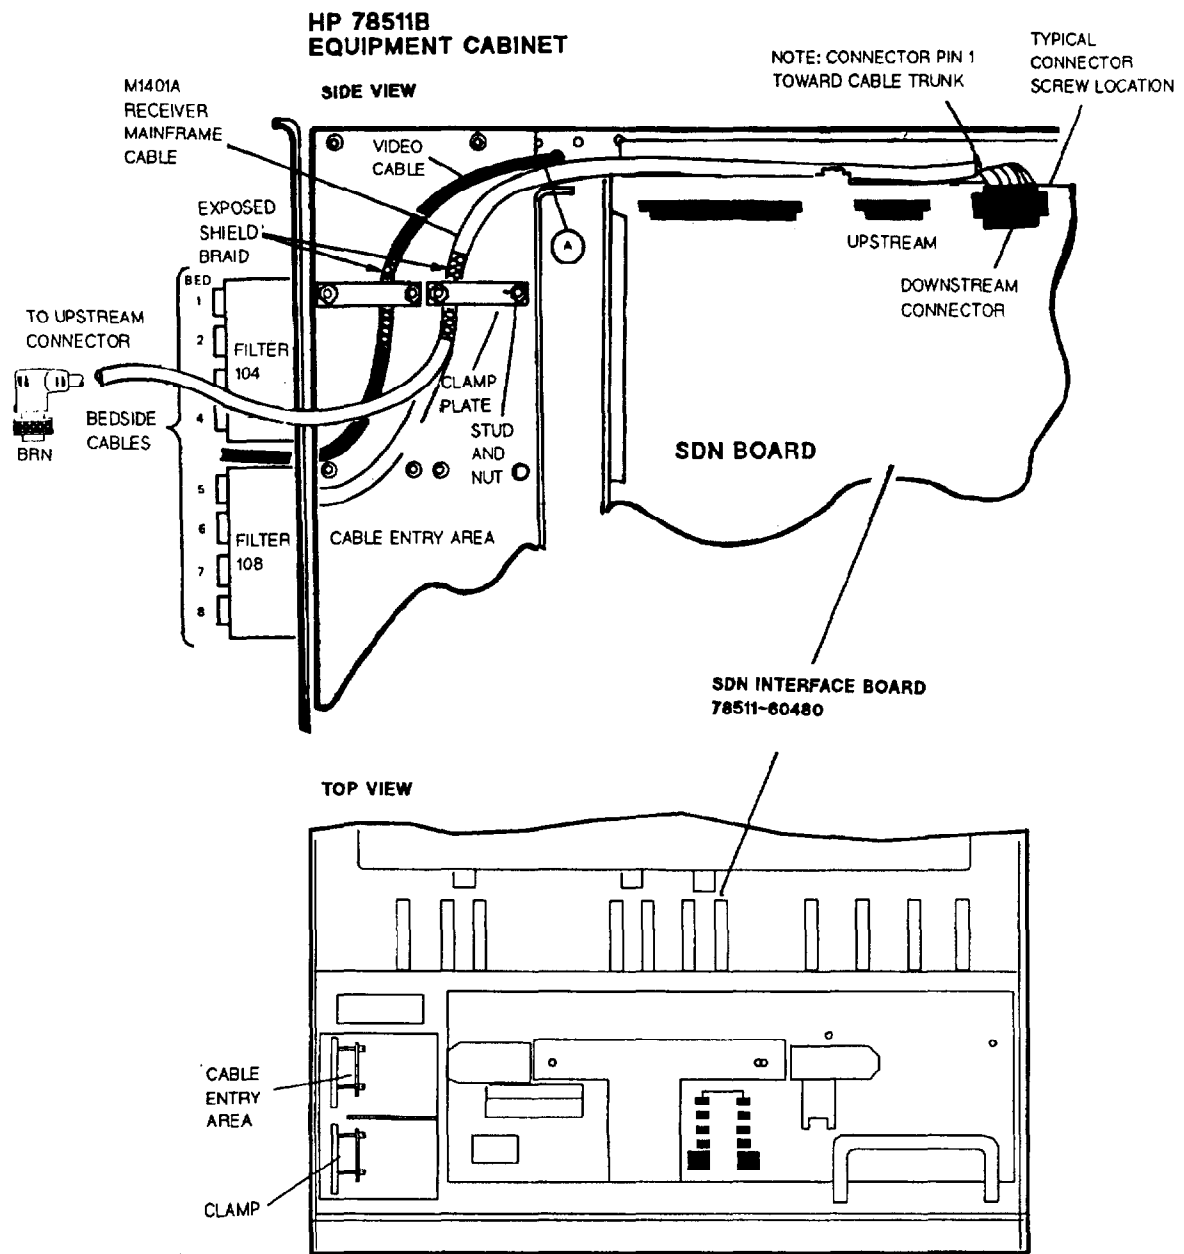

Figure 1-10. HP 78511B Equipment Cabinet Cable Installation
- b. Remove the cable clamp plates from the least-full pair of cable clamp studs in the HP 78511B Equipment Cabinet (Figure 1-10).
- a. After the connector is applied to the cable, attach the cable to the downstream connector (J4) on SDN board 78511-60480 and tighten the cable clamp hold-down screws (Figure 1-10).